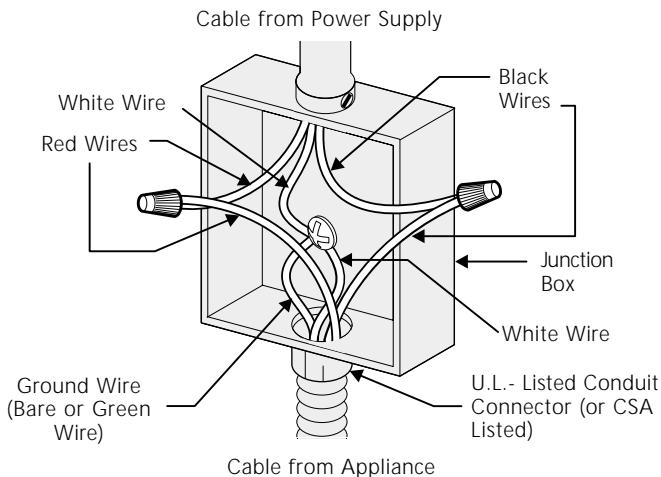

Figure 2 – GROUNDED NEUTRAL
- Where local codes permit connecting the cabinet-grounding conductor to the neutral (white) junction box wire (see Figure 2)